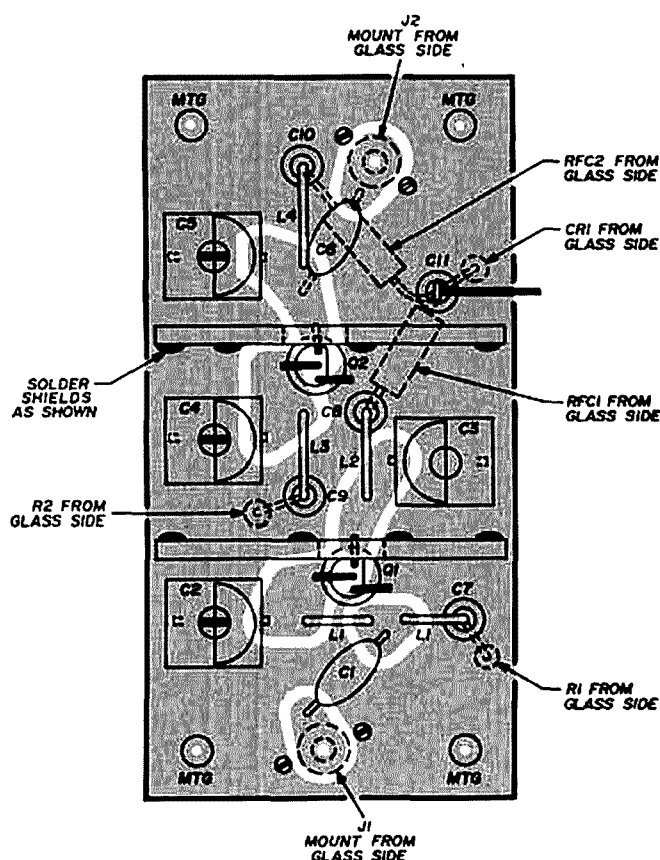

fig. 5. Component layout for the uhf preamplifier. Circuit board is shown in fig. 6.
Basic uhf converter covers the range from 420 to 470 MHz. Printed-circuit layout is shown in fig. 5.
fig. 4. Two-stage uhf preamplifier provides 15 to 25 dB gain. Capacitors C2-C5 are vertically-mounted E. F. Johnson 9-pF air variables. Printed-circuit layout is shown in fig. 5.
2. Spot solder the feedthrough capacitors and variable capacitors in place as shown in the pictorial, fig. 5.